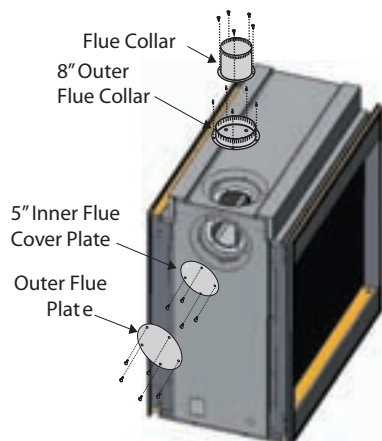

Figure 9. Flue cover and collar removal, *Top Vented* fireplace.
1. Remove the Side flue cover and gasket (5" and 8") on the flue outlet, as shown in **Figure 9**.
2. Next, Remove the Top flue collar's (5" and 8") on the flue outlet, as shown in **Figure 9**.
- Fireplace must be converted to Side Vent configuration prior to running vent, see Figure 9 and 9a.